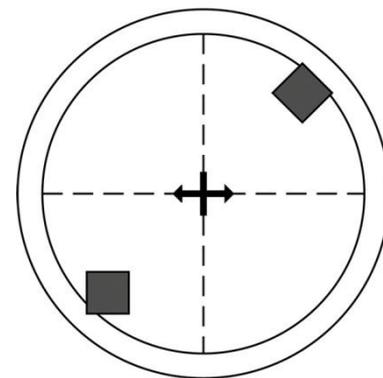
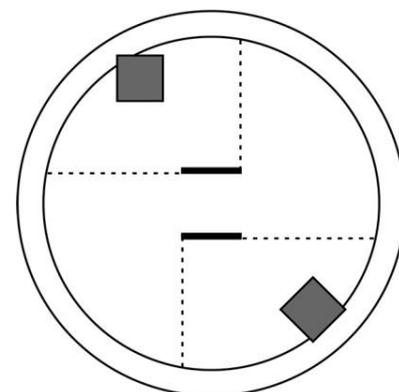

Figure 1 Starting cross
Figure.1.2 Sumo field with Shikiri-Sen starting lines
The starting cross is placed in the middle of the Sumo field and it divides the field into four equal sectors. The robots must be always located in two reciprocal sectors (see Figure 1.). The robot must cover the area of Tawara (white line) at least partially. The referee removes the starting line from the field once the robots have been fixed. Once the robot has been fixed, it cannot be moved anymore.
If the Sumo field is designed with Shikiri-Sen (starting lines) instead of starting cross, the same principles of robot orientation applies, in accordance with Figure 1.2. Any part of participant's robot shall not go over the sector limited by the closest Shikiri-Sen (starting line). The robot must cover the area of Tawara (white
2. Before each round and according to the signal of the referee, the contestants place their robots simultaneously on the Dohyo. The robots must be placed in reciprocal sectors and at least some part of the robot must stay on the white line (see Figure 1. Starting cross and Figure 1.2 Sumo field with Shikiri-Sen starting lines). The robots are not allowed to move after they have been placed on the Dohyo.